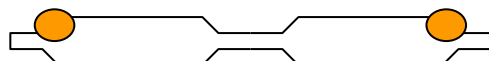

Fig 1. Cross section of the assembly profile.
- **TURBO TACK 291** is applied in two strings along the edges of the assembly profiles, see fig. 1. The adhesive is used for both the vertical and the horizontal profiles and on both sides.